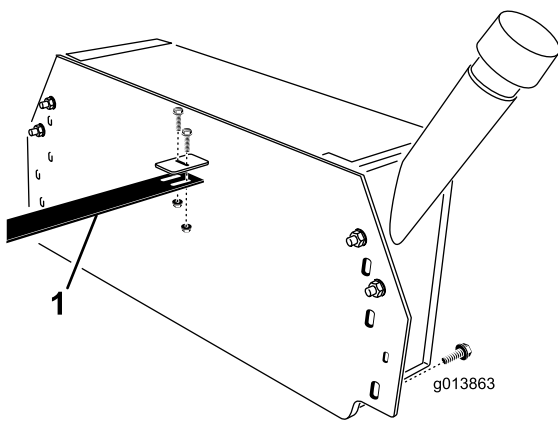

Figure 9
1. Battery bolt (2)
2. Washer (2)
5. Flange locknut (2)
31. Using 2 bolts (1/4 x 3/4 inch) and flange locknuts, attach the hose guide to the bracket on the hydraulic tank (Figure 9).